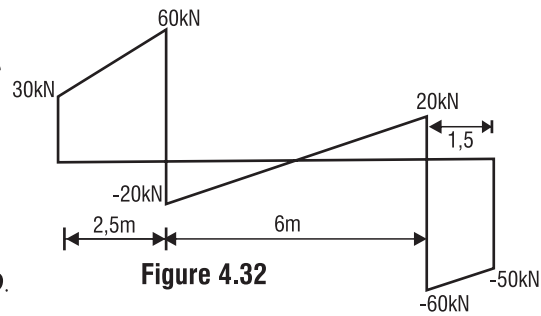

Figure 4.32
1. **Figure 4.32** shows the shear force diagram for a loaded beam. Deduce and sketch the loading diagram.